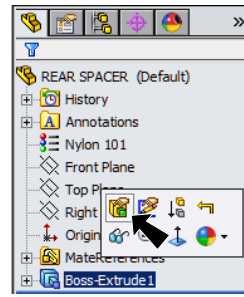

Fig. 10
Step 1. Click **Boss-Extrude1** in the Feature Manager and click **Edit Feature**  in the Context toolbar, **Fig. 10**.